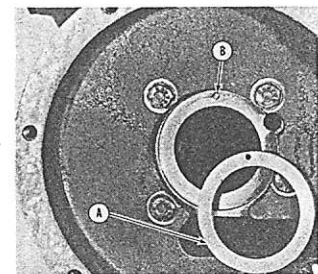

Fig. 124—Camshaft thrust washer (A) is positioned in engine block by locating pin (B).
On three cylinder models, camshaft end float is dampened by the leaf-type thrust spring (1—Fig. 113) riveted to rear face of timing gear cover. Because of the spur-cut timing gears, end thrust does not present a problem. On Model MF165, camshaft end thrust of 0.003-0.006 is controlled by a machined boss on the timing gear cover and a renewable thrust washer (A—Fig. 124), located in front of engine block and positioned by locating pin (B).